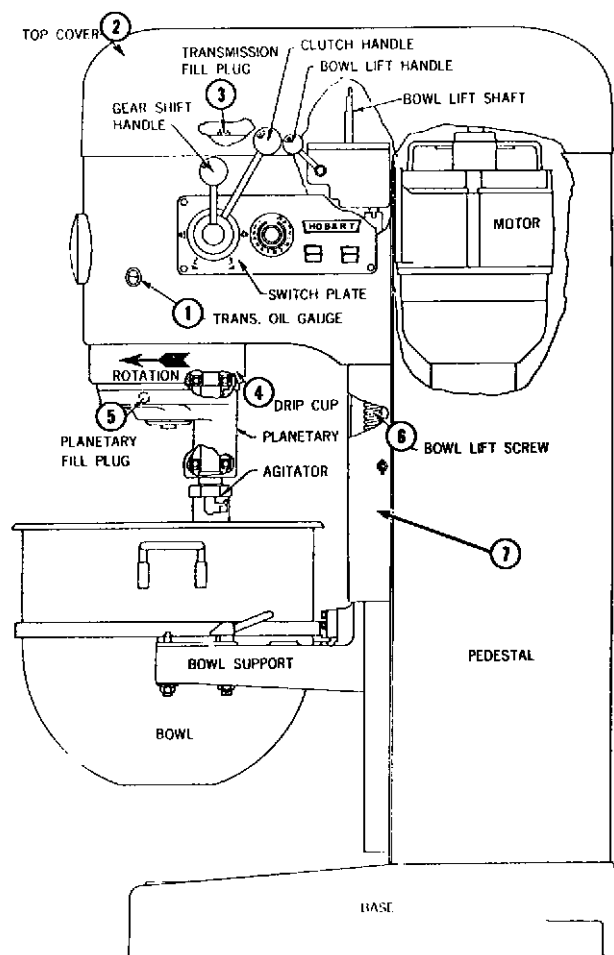
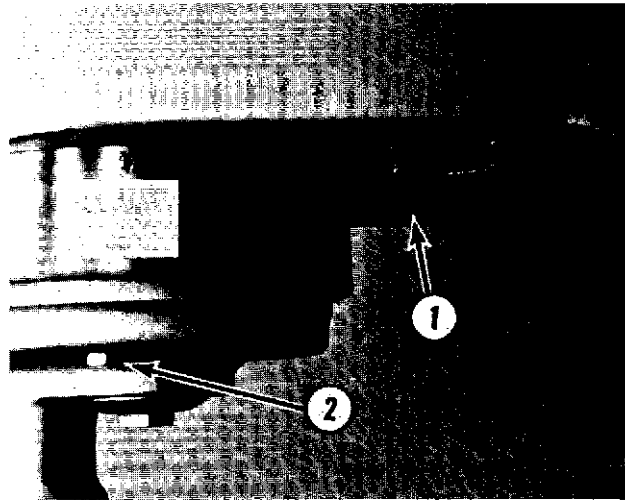

Fig. 6-1
Fig. 6-2
The oil level should be level with the oil level gauge line (1, Fig. 6-1) while the mixer is off.
- (1) To drain: Remove oil drain plug (1, Fig. 6-2) and drain all old oil.
- (2) Replace the drain plug.
- (3) To add oil: Remove the top cover (2, Fig. 6-1) and the transmission fill plug (3, Fig. 6-1).
- (4) Refer to "Lubrication Chart", Section 6 for proper type transmission oil. Add oil through the transmission fill plug until the oil level is even with the line on the gauge (1, Fig. 6-1).
- (5) Turn on the power, start the mixer and look down the oil fill hole. Oil should be flowing from the oil delivery tube across the gear face.
- (6) If oil is not flowing, shut off the mixer and refer to Transmission Service.
- A. Remove the drip cup (4, Fig. 6-1). It has 2 screws.
- B. Remove the planetary oil drain plug (2, Fig. 6-2) and drain the old oil.
- D. Remove the oil fill plug (5, Fig. 6-1) and pour the oil into the planetary. (Refer to "Lubrication Chart", Section 6 for the proper type and amount of lubrication.) The oil level should be even with the bottom of the oil fill hole.
- B. Remove the apron (7, Fig. 6-1) to gain access.